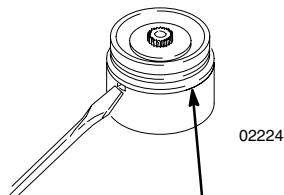

Fig 3 PRY OFF CHAMBER TOP
Insert a screwdriver into the notch of the chamber assembly and pry off the chamber top (B). See Fig 3. Remove all parts.